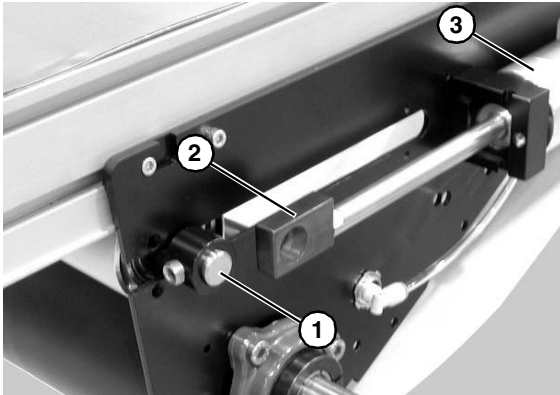

Figure 25
8. Push shaft (**Figure 25, item 1**) through block (**Figure 25, item 2**), and slide block towards air cylinder (**Figure 25, item 3**).